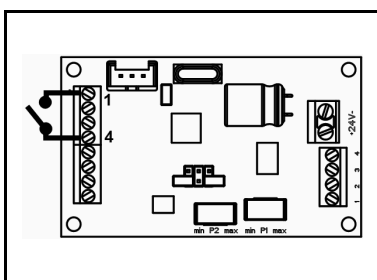

Fig 9: Start impulse
- Connect the start signal to COM 4 (see fig. 9)
- ➔ Connect the start signal to COM 4 (see fig. 9)